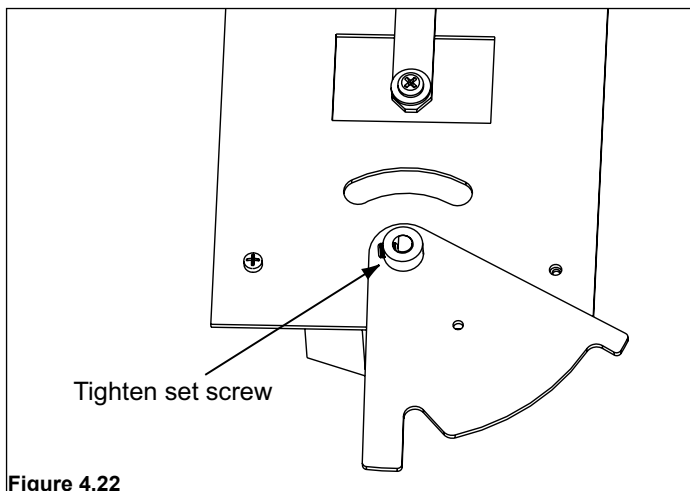

Figure 4.22
3. Place linkage control arm over timer shaft and tighten set screw. Figure 4.22.